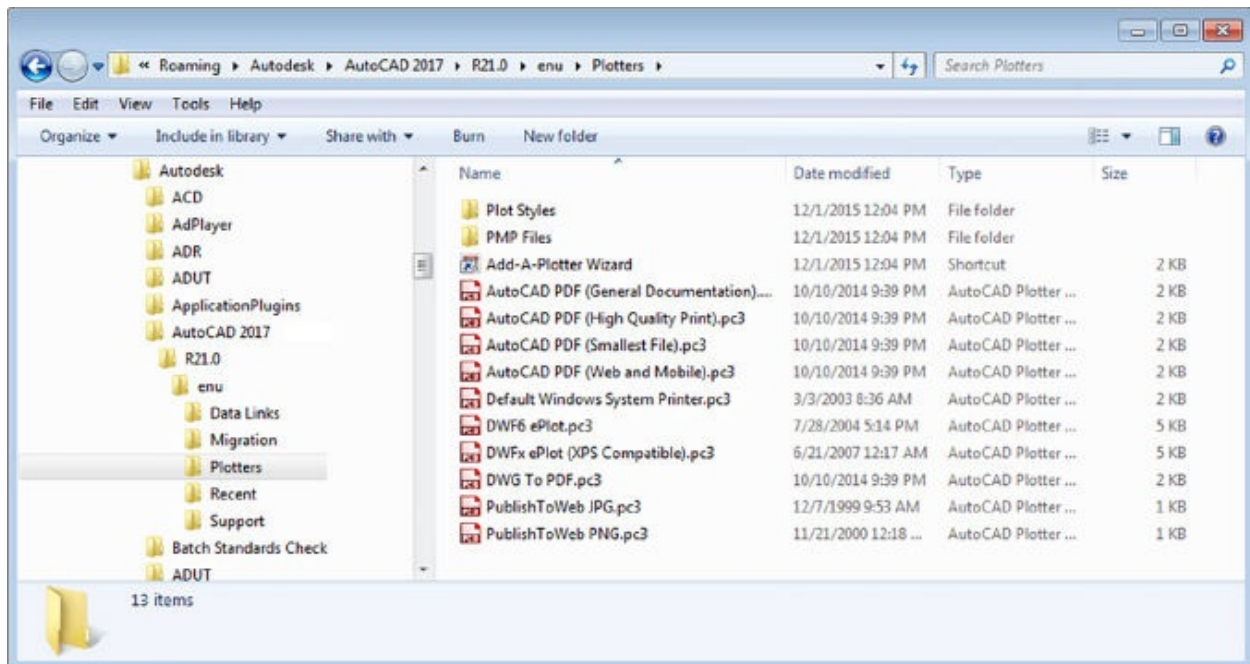

FIGURE 8.11 The Plotters window
1. Click the Plotter Manager tool on the Output tab's Plot panel to open the Plotters window (see Figure 8.11). Your view of the Plotters window may look a little different, depending on your operating system, but the same basic information is there.